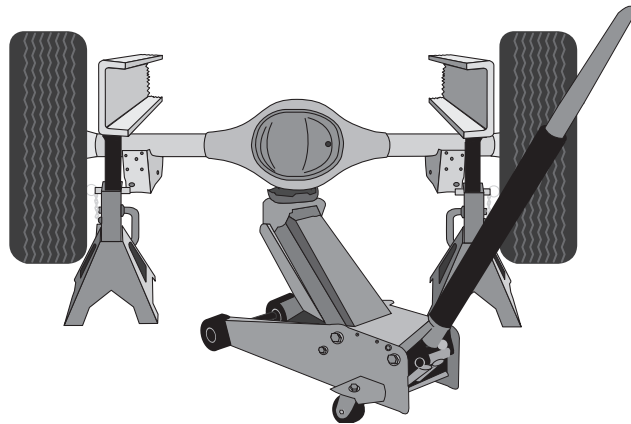

Fig. 2
2. Lift the vehicle up and support the frame with safety stands (Fig. 2). Drop the axle down low enough so the coil springs can be removed.